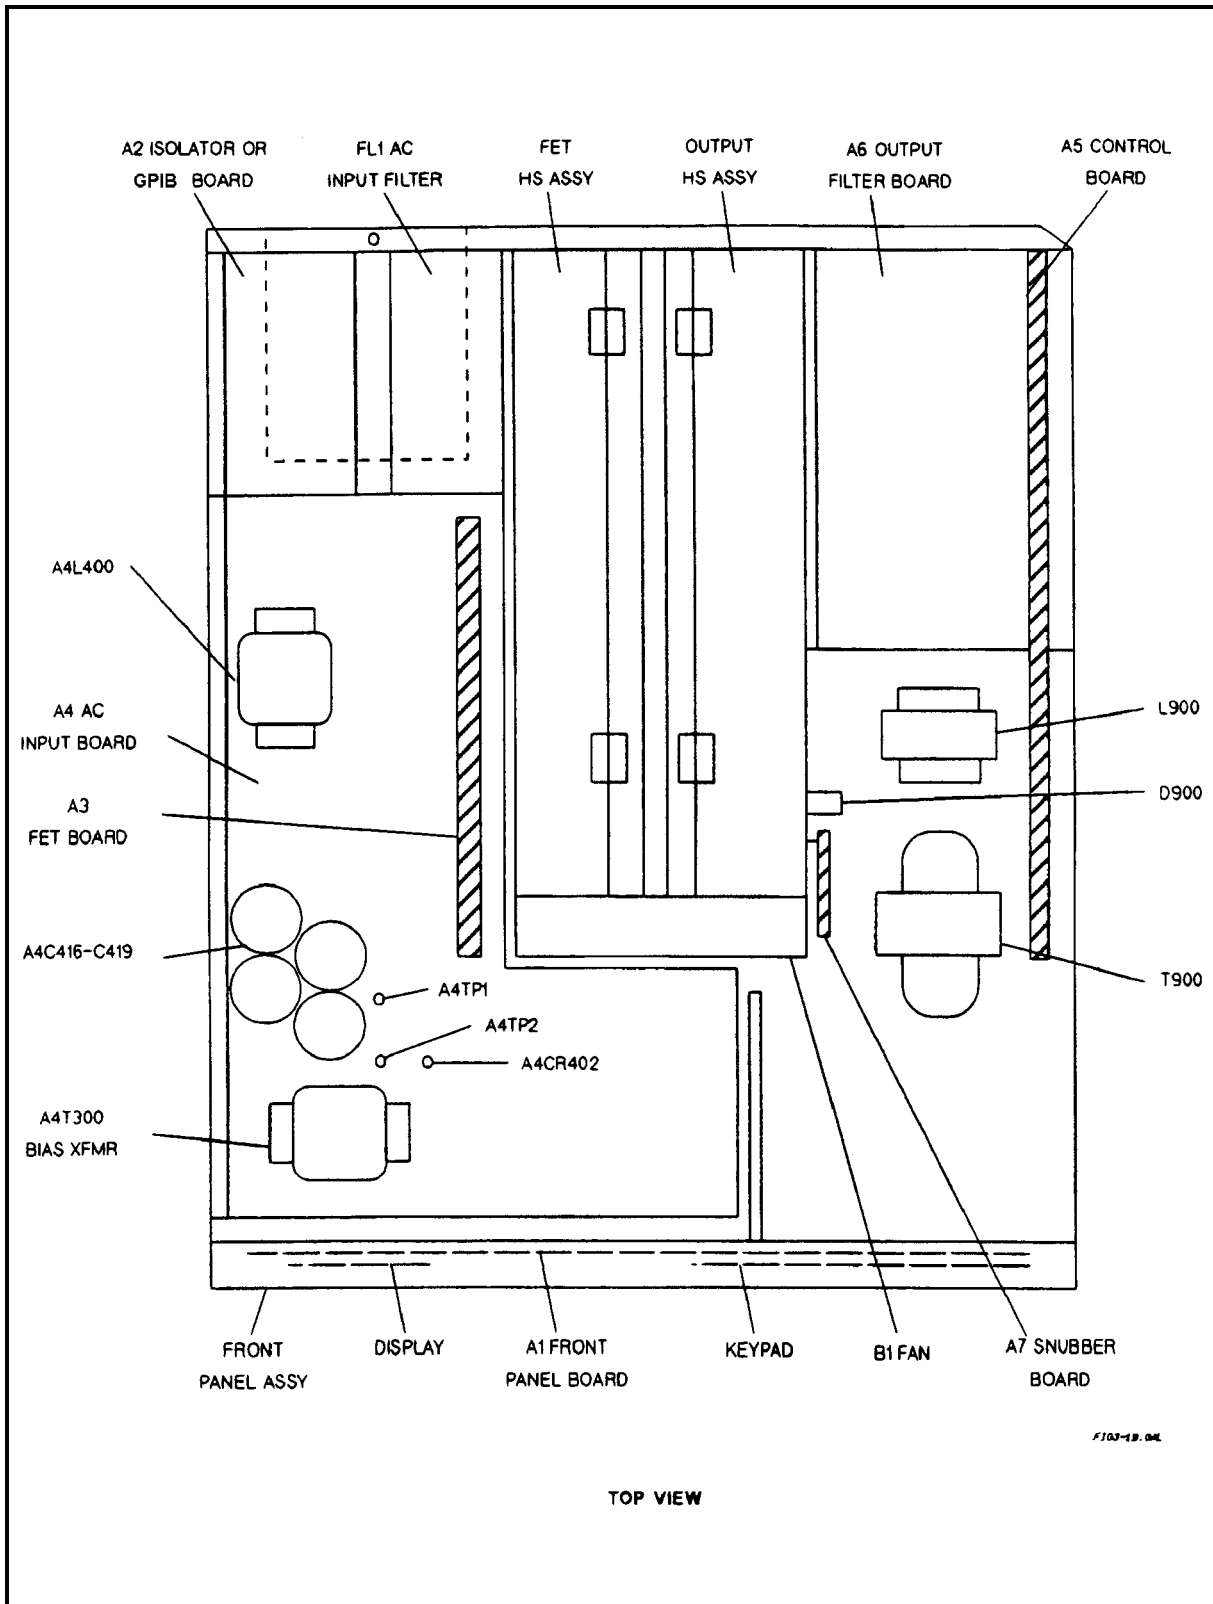

Figure 3-20. Component Locations (Top Cover and RFI Shield Removed)
* The locations of circuit board assemblies and chassis-mounted components are shown in Figure 3-20.